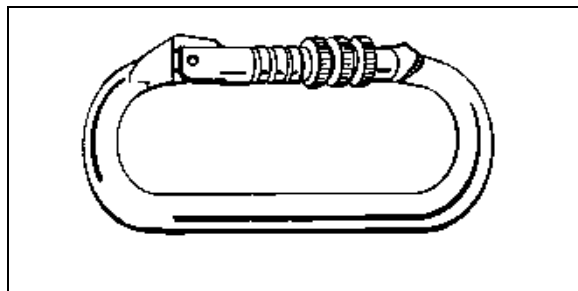

Figure 6-6. Locking snaplink.
c. **Locking Snaplinks.** Locking snaplinks have a locking mechanism with a threaded sleeve on the gate. The sleeve screws tightly over the gate opening end or hinge end to hold the gate closed (Figure 6-6). A reverse locking gate is needed to prevent a moving rope from unscrewing the sleeve. The locking sleeve and threads should be kept free of dirt and grit. If the sleeve is forced to close, it may strip the threads. The locking mechanism ages and weakens after repeated use and should be routinely inspected for wear. The characteristics of locking snaplinks are as follows: